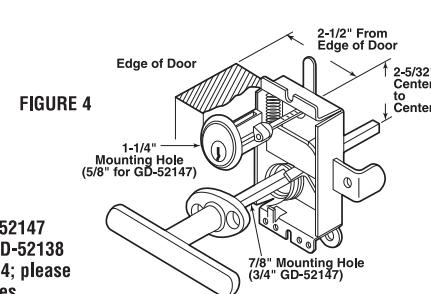

FIGURE 4
Note: If installing the GD-52147 in combination with the GD-52138 latch, install as in Figure 4; please note hole diameter changes.
**Step 3** • If the side lock is being used with the GD-52121 Handle and the GD-52139 Key Cylinder, refer to Figure 4. Install key cylinder as in "A" above. For new installations a 1-1/4" diameter hole must be drilled to accommodate the key cylinder. (**See all mounting dimensions.**) If Side Lock is being used with GD-52147, no modifications are necessary.